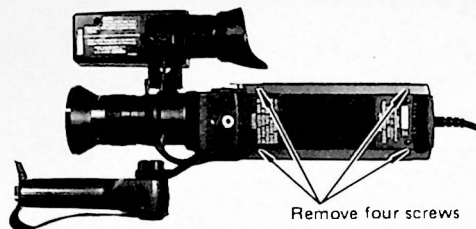

Fig. 2-1-1
- Remove the two screws on the bottom of each side cover holding the both side covers. (Fig. 2-1-1)